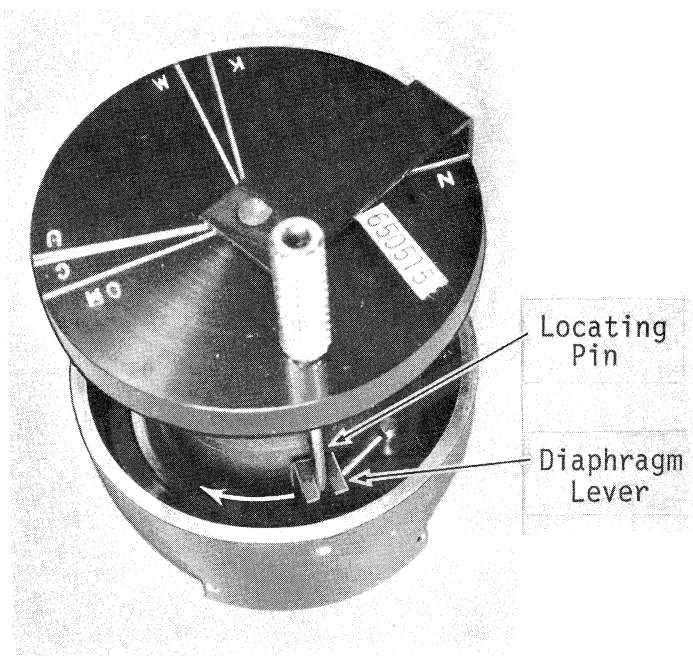

Fig. 69
- 13.3.13 Place Tool No. 650515 on Prime Lens Assembly with tip of knurled locating pin through fork in Diaphragm Lever. (Fig. 69)